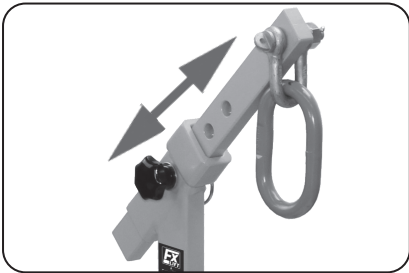

Fig. 3
- The workpiece must hang vertically in vertical transport, during the lifting operation so that it can not slide away from the stop. Depending on the load center of gravity the extension arm (Fig.3) is to adjust so that the vertical transportation can be ensured.
4. Raise the workpiece and check the vertical position. If necessary, correct this by moving the boom at secured load. (Fig. 3)